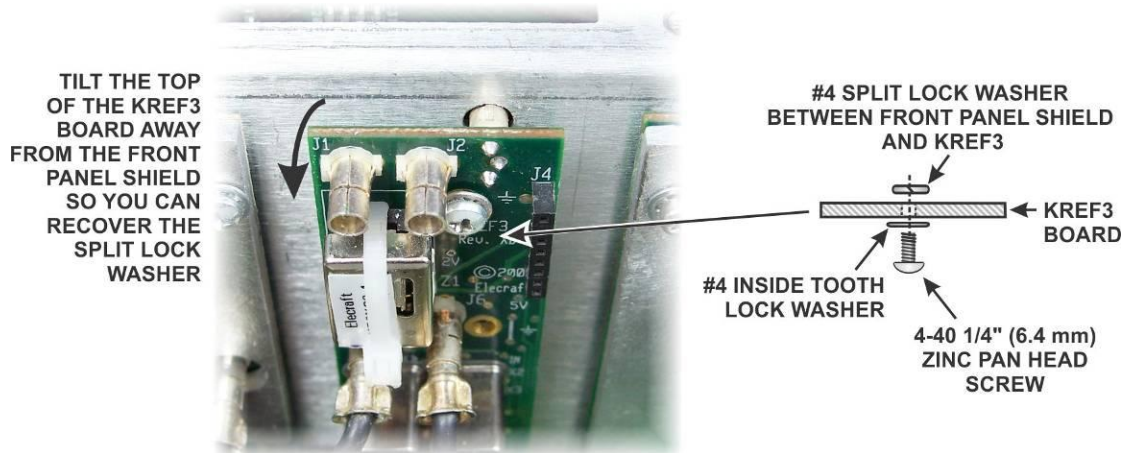
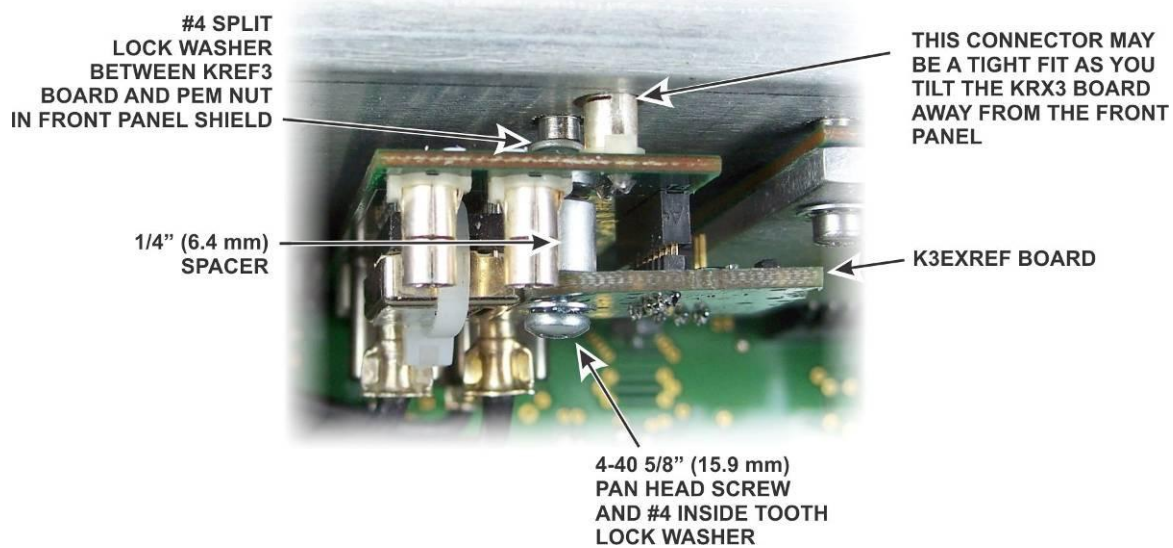

Figure 6. Removing the KREF3 Board (No K3EXREF Option Installed)
Figure 7. Removing the KREF3 Board Hardware with K3EXREF Option Installed.
- ☐ Remove the hardware holding the KREF3 board to the front panel as shown in Figure 6 or Figure 7.